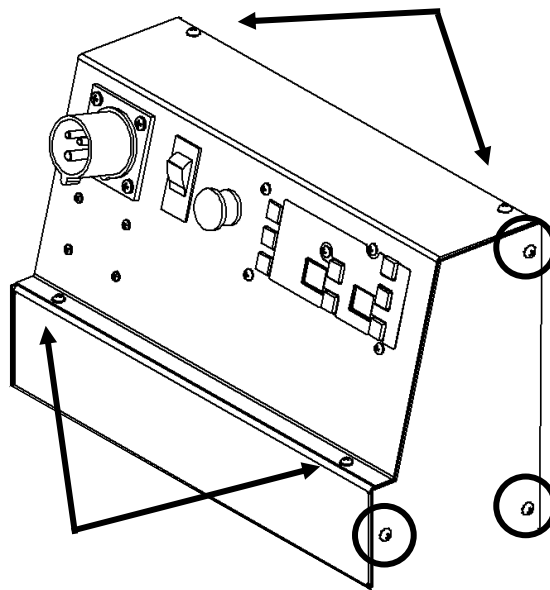

Figure 3-24
2. Remove the top and front screws of the top panel of the control enclosure, as shown in Figure 3-24 (arrows). Set aside the screws.
3. Remove the three screws on either one of the side panels of the control enclosure, as shown in Figure 3-24 (circled). Set aside the screws.